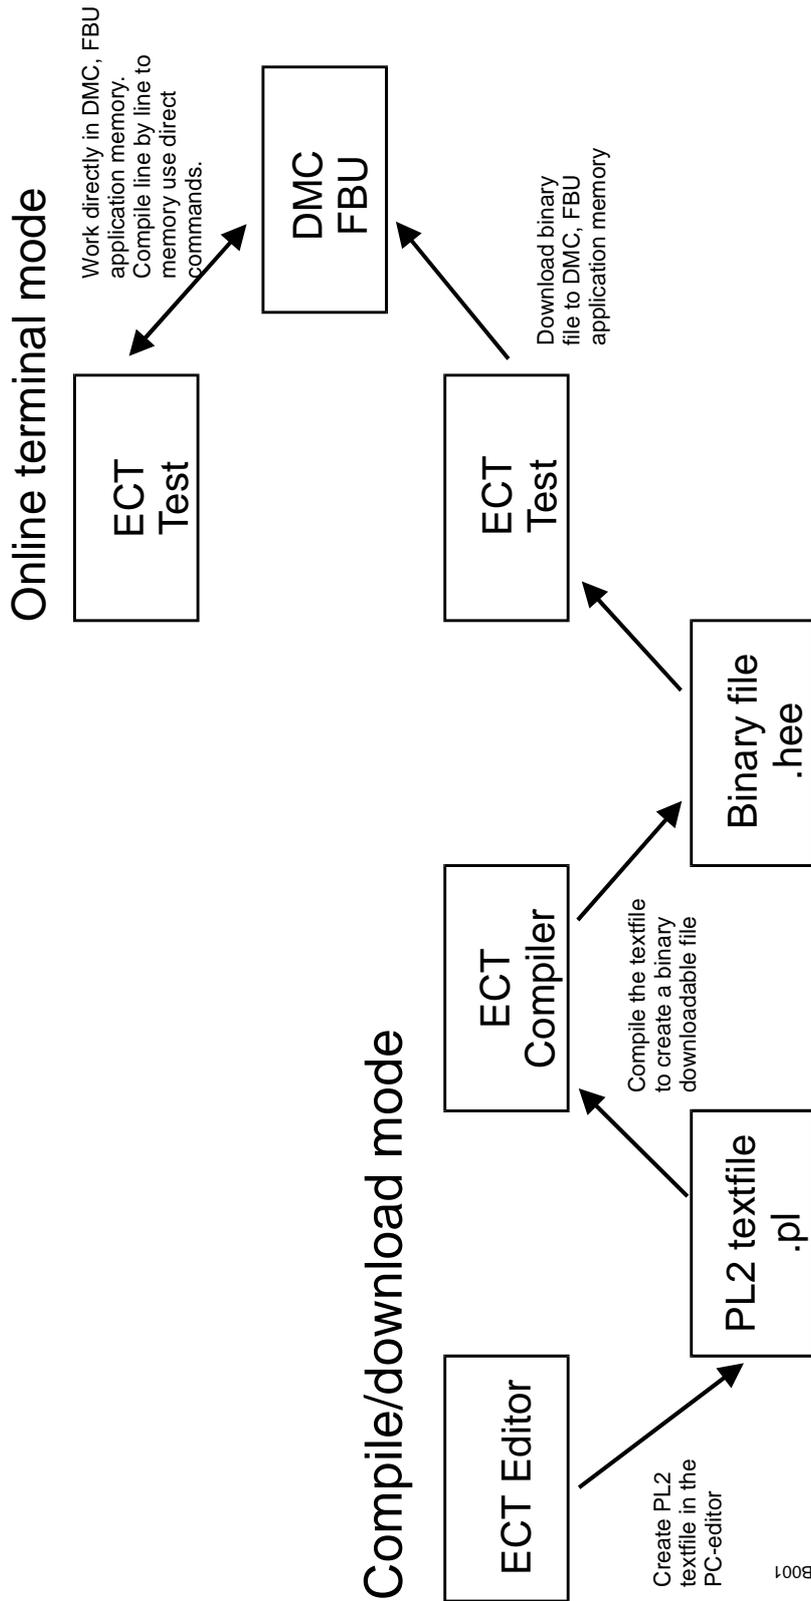

Figure 1. DMC² software development cycle.
- ECT, Edit-Compile-Test, software package for PC-compatible computers. Allows the user to create application program text files, compile them and download the binary files to the DMC² as illustrated in Figure 1.